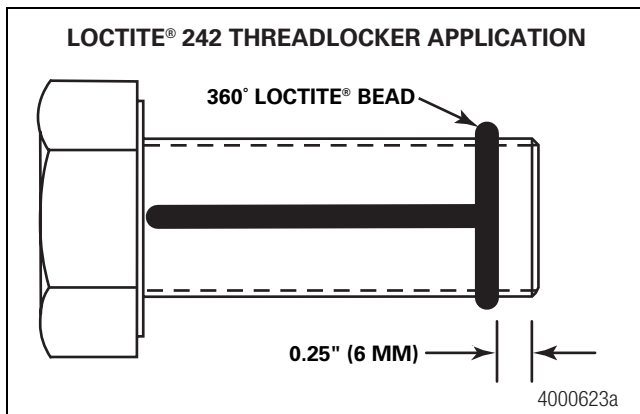

Figure 4.16
- Apply a 0.125-inch (3 mm) bead of Loctite® 242 threadlocker around the capscrew threads approximately 0.25-inch (6 mm) from the end. Apply a 0.125-inch (3 mm) bead of Loctite® 242 threadlocker across the length of the threads. Figure 4.16.